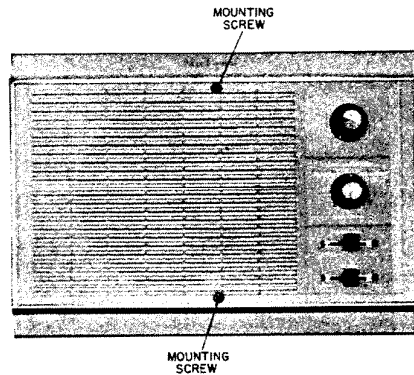

Fig. 8. Model 2570 inside remote speaker station.
1. Model 2570—5 inch speaker (Fig. 8).
Installing Model 2570 Remote Speaker Station (Figs. 8 and 9).